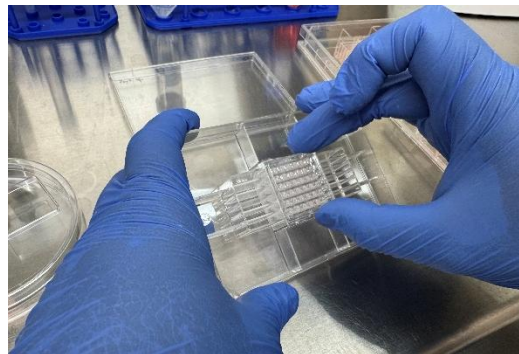

Figure 12. Reinserting the pillar plate onto the perfusion plate after old medium removal.
27. Carefully remove the pillar plate from the 36PetriLid (or 144PetriLid) and reinsert it onto the corresponding perfusion plate (**Fig. 12**).